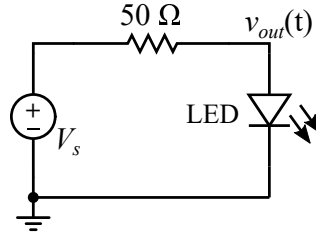

Figure 2: LED transmitter circuit.
- Build the circuit shown in Figure 2 with the DMM connected to measure the current through the LED.